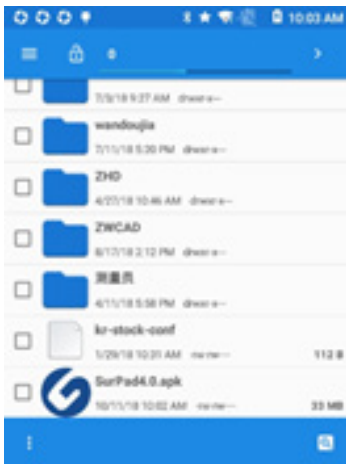
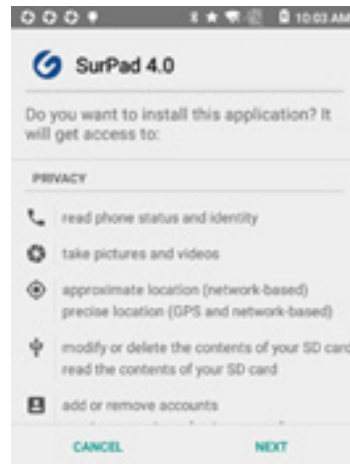
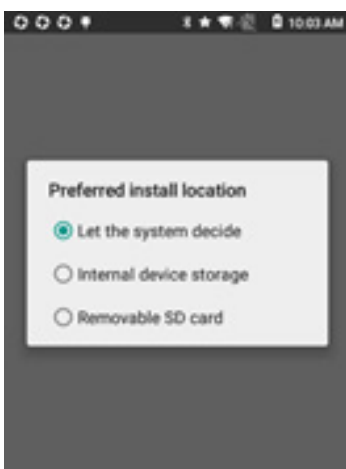
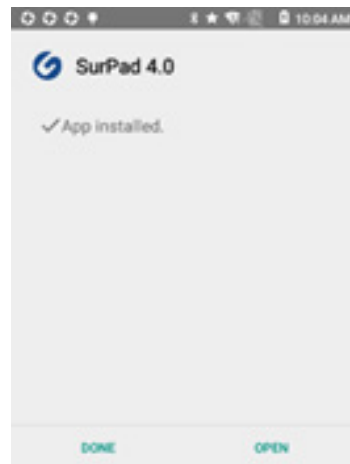

Figure 1.3-1
Figure 1.3-2
Figure 1.3-3
Figure 1.3-4
- (1) Download the Android SurPad4.0 installation package (*.apk).
- (2) Copy the installation package to Android device. Find the installer in File Manager in Android device as shown in Figure 1.3-1. Click the installer and pops up installation dialog box as shown in Figure 1.3-2. Click Install and pops up dialog box for preferred installation location as shown in Figure 1.3-3, and installation completion dialog box will pop up shortly as shown in Figure 1.3-4. Press Done to return to device desktop and press Open to run SurPad software.